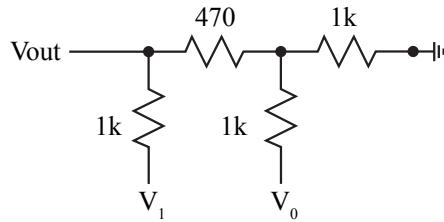

Figure 3.6: Two bit R-2R ladder.
1. Using the circuit in Figure 3.6, calculate the ideal output voltages for the following combination of voltages and table the values:
2. Construct the circuit in Figure 3.6 and measure the output voltage using the oscilloscope, table the values. In order to generate the changes in voltages, set Wavegen 1 (V_0) to a 1 Hz square wave with a 2.5 V amplitude, a 2.5 V offset, and a 180 phase offset. Set Wavegen 2 (V_1) to a 500 mHz square wave with a 2.5 V amplitude, a 2.5 V offset, and a 180 phase offset.